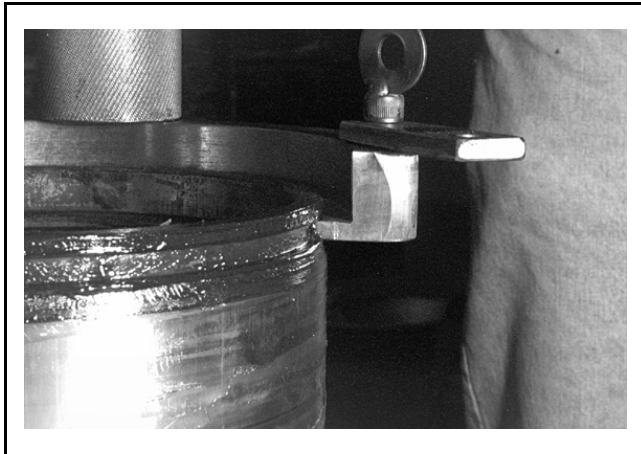

FIGURE 12 (MSSM0275AE)
3. Hook the *shaft sleeve tool* (FIGURES 12 and 13) to the milled groove in the *shaft sleeve*. Using the tool's slide hammers, free the *shaft sleeve* from the shaft and discard.